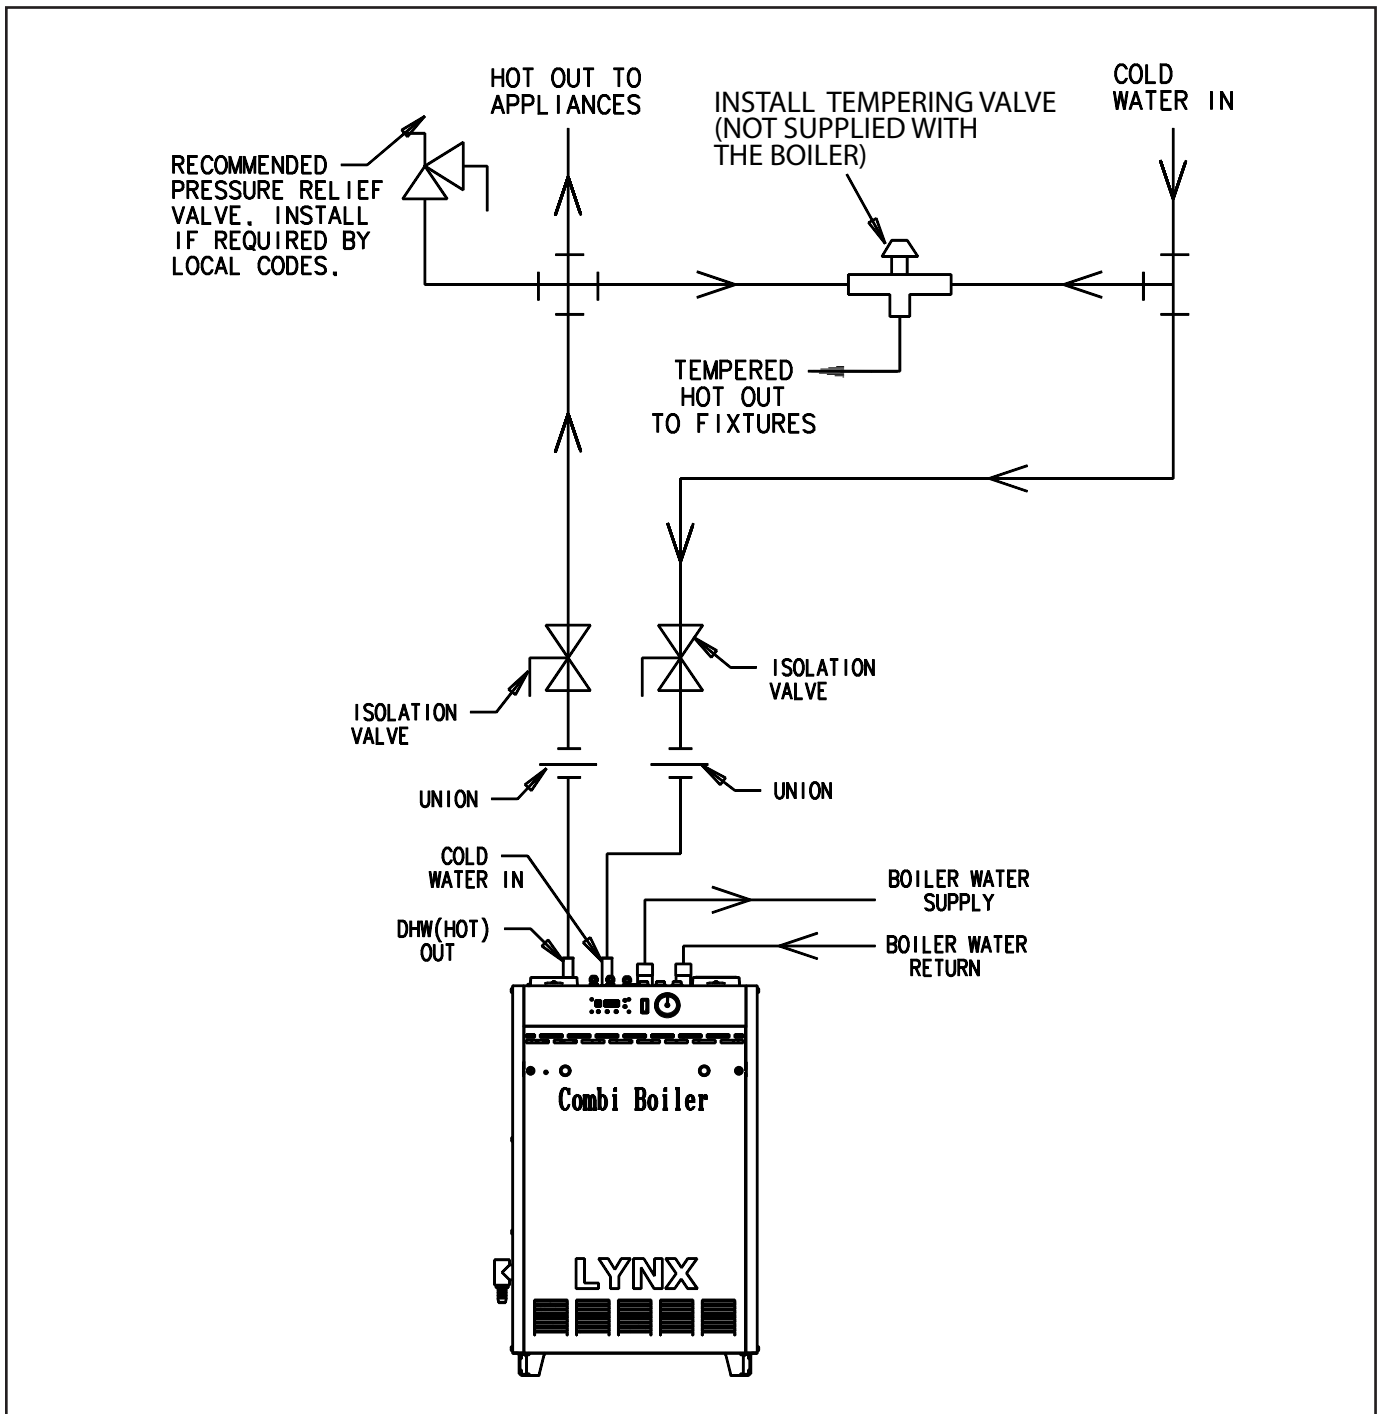

Figure 23. DHW piping.
A tempering valve must be installed on the hot water outlet to all fixtures where direct user contact can be made with the water supplied by the DHW system, to prevent any possible scalding conditions. See Figure 23 for the appropriate installation method of this device (not supplied with the boiler).
1. Make all piping connections to and from DHW system of the combi boiler as shown in figure 23.
CAUTION: A tempering valve (not supplied with boiler) is recommended to be installed on the hot water outlet to all fixtures where direct user contact can be made with the hot water supplied by the DHW system to prevent any possible scalding conditions. See figure 23.